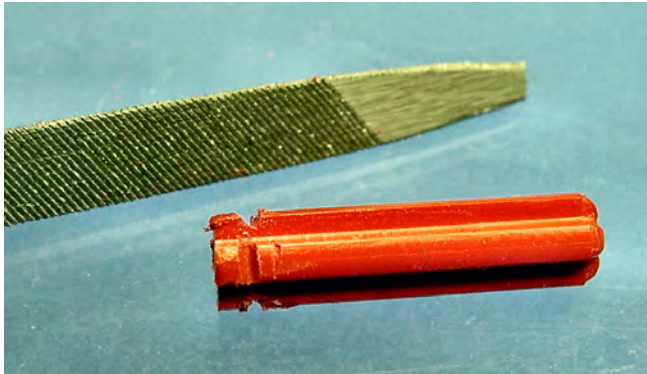

Figure 4-7. A small triangular file (upper left) can make notches and grooves in the end of a LEGO axle (center).
1. Obtain a LEGO cross axle in a length desired. In this example, I cut a 6 LEGO unit (LU) length axle in half.
2. With the sharp corner edge of a file, make notches (see Figure 4-7) in the end of the LEGO axle that will be inserted into the coupler. If you cut down a longer axle, put the notches in the cut end because the tapered end accepts LEGO parts more easily.